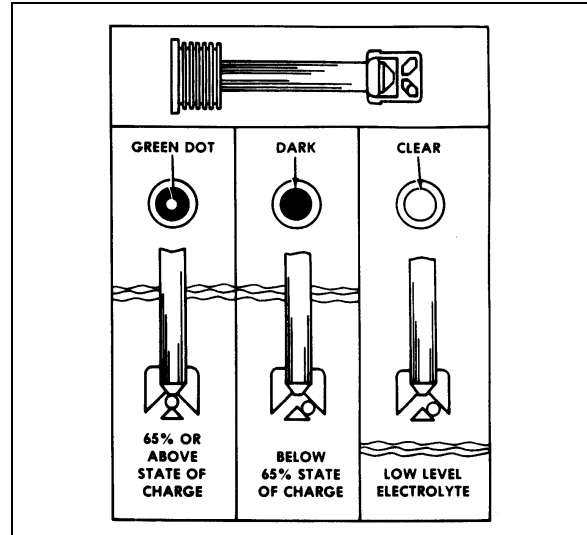

FIGURE 13: TEST INDICATOR
The test indicator in the battery cover is to be used with accepted diagnostic procedures only. It must not be used to determine if the battery is good or bad, charged or discharged. The test indicator is a built-in hydrometer in one cell that provides visual information for battery testing (fig.13).
1. Connect a voltmeter, ammeter, and a variable load resistance as illustrated in figure 13.